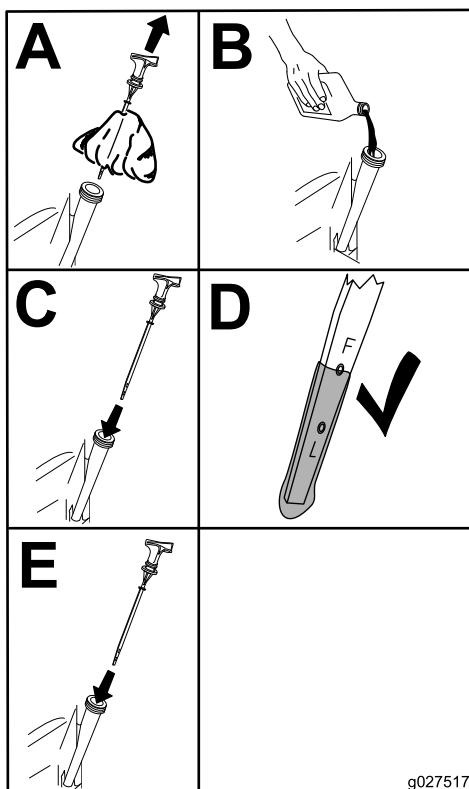

Figure 58
6. Slowly pour approximately 80% of the specified oil into the filler tube (Figure 58).